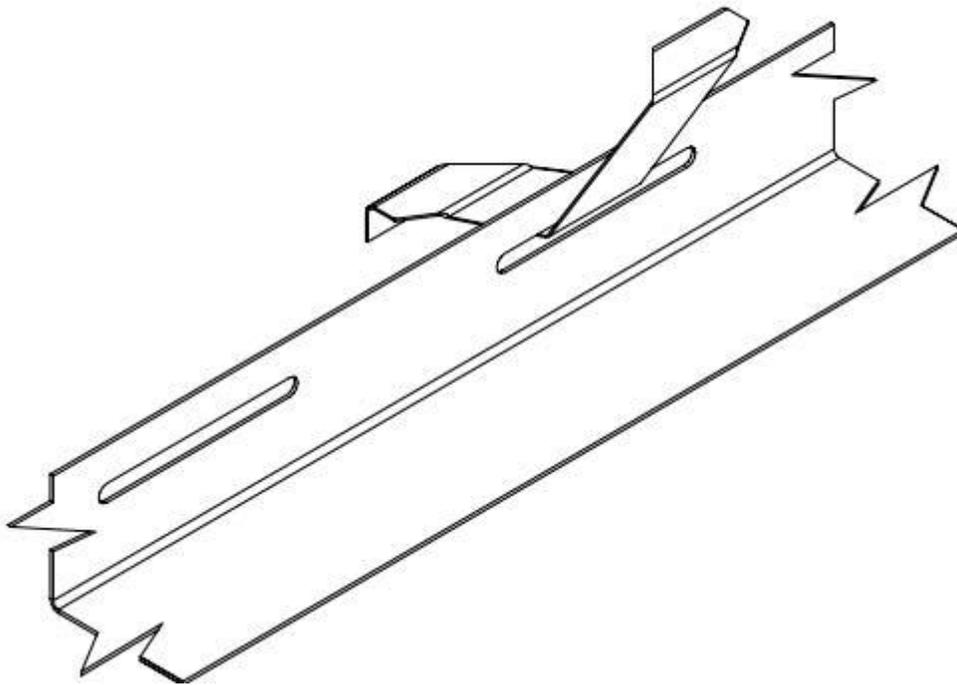

Figure 3. DMC 200S Continuous Butterfly Clip (10 ft Lengths)
DMC 200S Continuous Butterfly Clip (Table 2): The panels are secured to the deck with DMC 200S continuous butterfly clips. Refer to Figure 3 for an illustration of the continuous butterfly clip. The butterfly clips consist of a “base” and a “butterfly.” The “base” is 18 gauge L-shaped galvanized steel that is 2” wide, 1 ¾” high, and comes in 10 ft long sections. (Note: The base shall be installed continuously along the length of the panel only in those areas where the design pressures in Table 2 are required. In other locations, the panel clip method required for Table 1 design pressures may be used.). The base has a ¼” wide by 3” long slots located ½” from the top for the “butterfly.” The “butterfly” is 22 gauge galvanized steel that is 5.045” long by 0.929” tall with two return flaps. The “butterfly” is used to secure the metal roofing panel to the “base.” The “butterfly” is secured to the panels and to the continuous base at 3 inches from each end and 12 inches on center. The DMC 200S continuous butterfly clip is secured to the roof deck with two (2) minimum No. 10 x 1” long Hex head self drilling screws located 3 inches from each end and 12 inches on center. The fasteners shall be long enough to ensure a minimum penetration of 3 pitches of thread below the steel deck. The female rib of the panel is placed over the male/clip assembly and seamed 180 degrees.